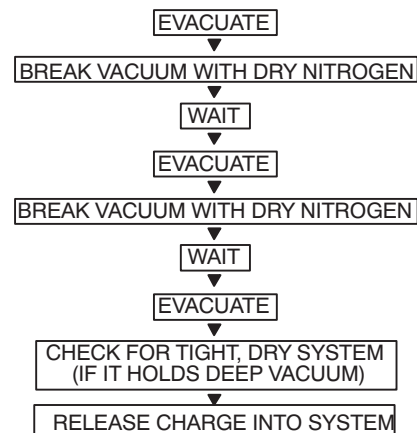

Fig. 14 —Triple Evacuation Method
The triple evacuation method should be used when vacuum pump is not capable of pumping down to 500 microns and system does not contain any liquid water. Refer to Fig. 14 and proceed as follows:
5. Repeat this procedure as indicated in Fig. 14. System is now free of any contaminants and water vapor.